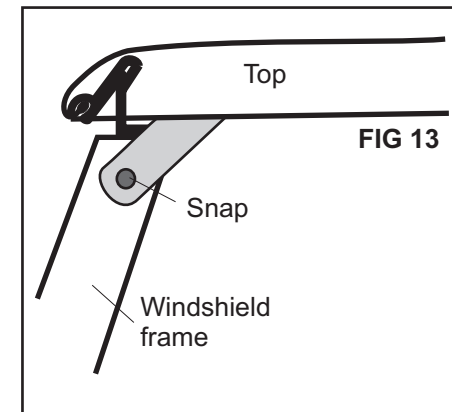

FIG 13
**Windshield Snap Studs.** Pull down on tab at front side of top. Mark and drill for best position of snap stud. Mark and drill 9/64" hole. Install 3/8" sheet metal screw stud (W3). Repeat for other side. See illustration FIG 13.